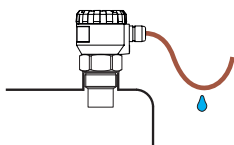

Fig. 14: Prevention to avoid intrusion of humidity
- It is suitable to run the cable under a cable bushing (obliquely down in slack) according to Fig. 14 to prevent **penetration of humidity**. Then the rain and condensing water can flow off freely.